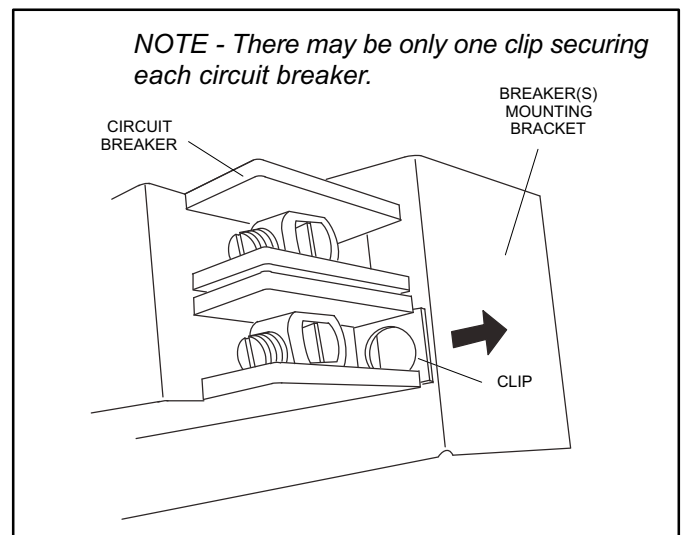

Figure 3. Circuit Breaker Clip
2. Locate the one clip which is located on the right side (see arrow) of each breaker (see figure 3). The clip secures the circuit breaker to the mounting bracket. Pull the clip to release the breaker from the mounting bracket.